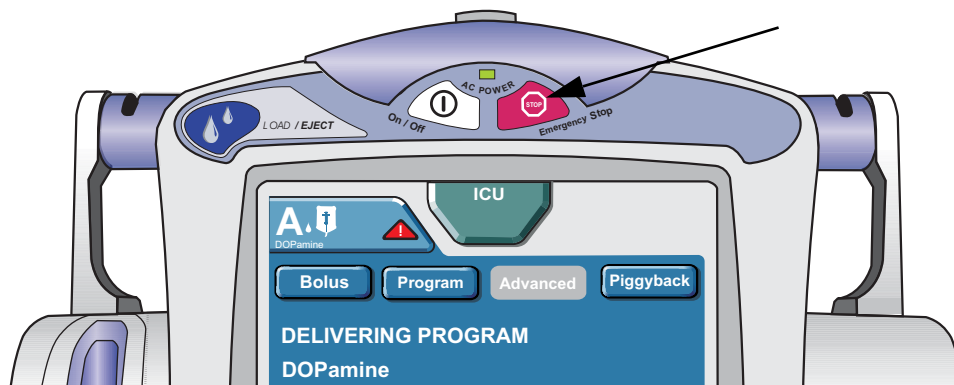

Figure 30: Emergency Stop Button
1. Locate the **Emergency Stop** button on the front of the infuser. See Figure 30: "Emergency Stop Button" on page 42.